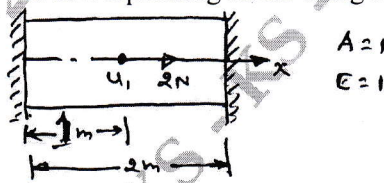

Fig.Q.1(b)
b. Fig.Q.1(b) shows a bar fixed at both ends subjected to an axial load as shown. Determine displacement at loading point and corresponding stress using R-R method. (10 Marks)